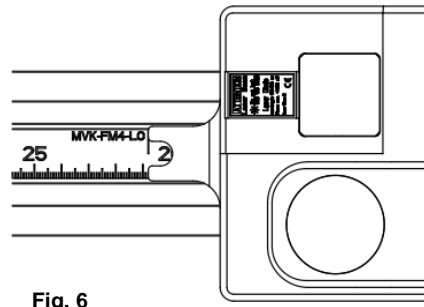

Fig. 6
- Slide the FM4-LO on the measuring bar until it reaches the marker MVK-FM4-LO (Fig. 6).